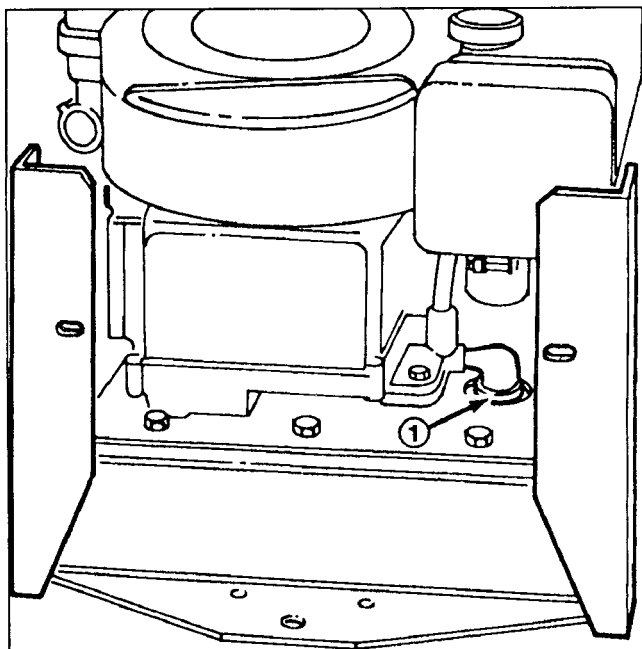

Figure 15
- B. Turn engine off and place drain pan below drain plug (Fig.15). Remove drain plug, and allow all oil to flow into drain pan. Reinstall drain plug after oil stops flowing.